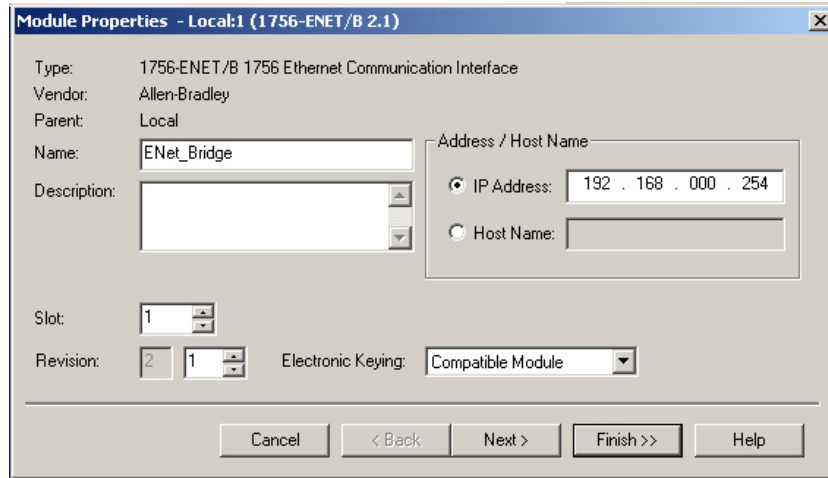

Figure 7.2 Setting Module Properties
- 3) Enter the following information in the *Module Properties* window that opens. All parameters not listed here are optional. Figure 7.2 shows a completed screen.
You will still have to set an IP address for the Ethernet Port if the port is built into your processor. Right click on the port name in the I/O Configuration screen and select “Properties”. A Module Properties window similar to the one shown in figure 7.2 will open. In this window you must set an IP Address for the port, *not* the IP address of the SMD23E.